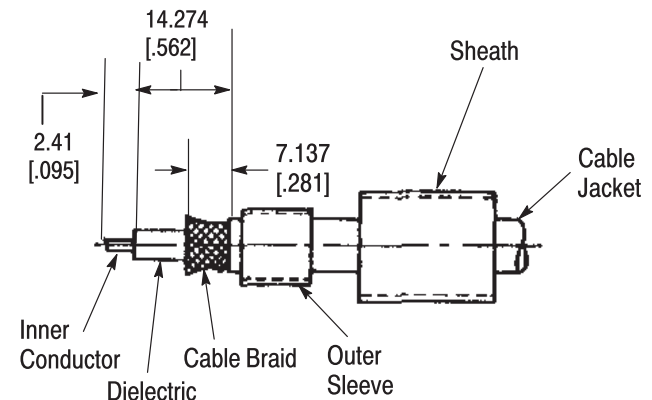

Figure 3
- Strip the cable according to the dimension in Figure 3.